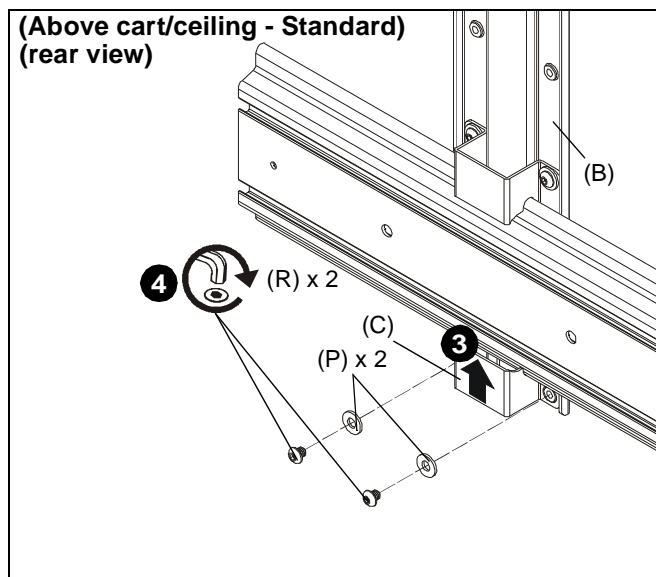

Figure 26
- Slide second support bracket (C) underneath cart/ceiling head assembly, lining up holes on support bracket (C) to holes on main bracket (B). (See Figure 26)
- Use two 1/4-20 x 1/4" button head cap screws (R) and two large washers (P) to secure support bracket (C) to main bracket (B). (See Figure 26)